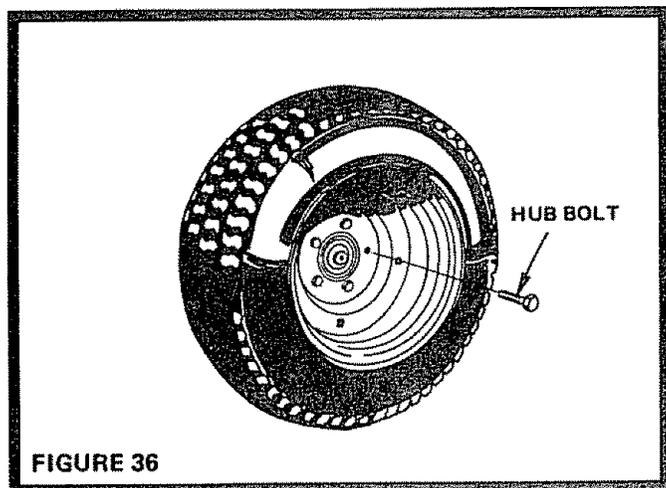

FIGURE 36
- a. Block up Rear Axle securely or use a Tractor Jack. Remove left Rear Wheel by removing Hub Bolts (Fig. 36).
- Removing rear wheel for tire repair (Fig. 36).
- Remove (5) Hub Bolts to allow wheel removal.